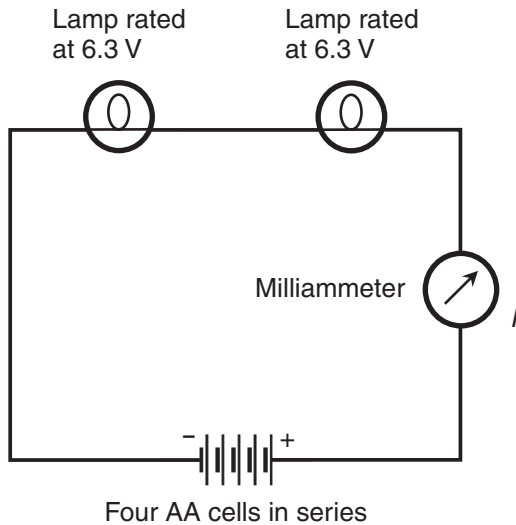

Figure DC18-3 *Measurement of current I drawn by the combination of two "identical" lamps in series.*
Remove the jumper wire from between the positive battery terminal and the lamps. Set your meter to measure DC milliamperes. Connect the meter where the jumper was, so that the meter is in series with the lamps as shown in Fig. DC18-3. Call the current I . When I measured I between lamp P and the battery, I got 160 milliamperes (mA), which is 0.160 ampere (A). Move the meter so as to measure I between the two lamps. Then move the meter again to measure I between lamp N and the battery. You should get the same meter reading every time, within 1 percent or less.